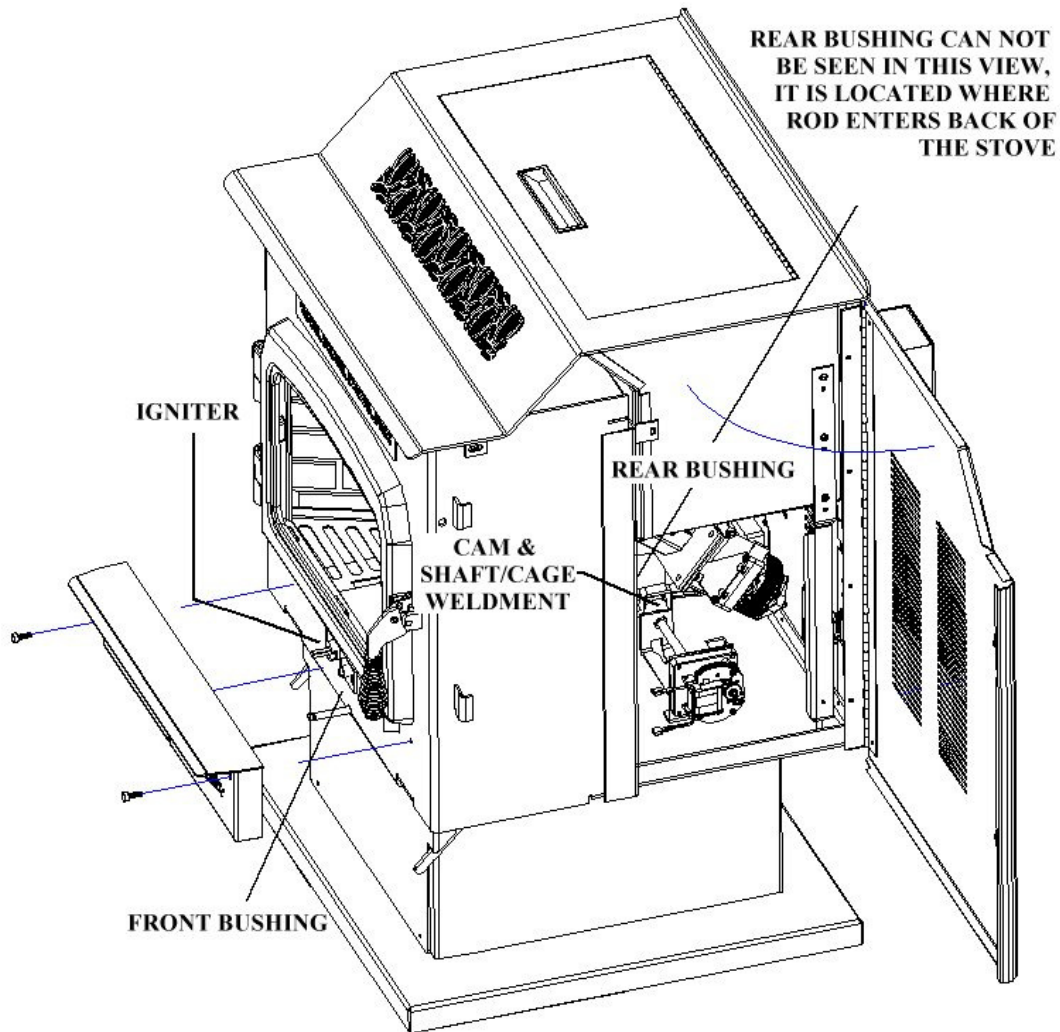

Figure 10
5. The Versa Grate System needs to be lubricated once a year with some High Temp Anti Seize to prevent the parts from “squealing” add some Anti-Seize to the Cam and Rod at both bushings. To gain access to the Versa Grate System in the Prescott Series open the right side panel when facing the stove. To locate the Rear Bushing assembly, follow the rod from the Shaft/Cage Weldment towards the front of the stove. The front bushing is located below the igniter in the front of the stove. Remove the ash lip cover as shown in figure 10.